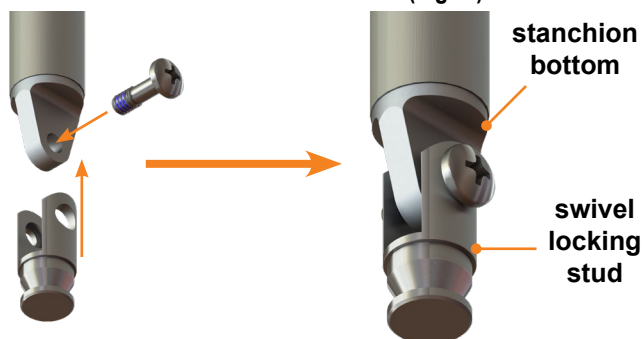

Fig.10
15. Use a screwdriver to install the swivel locking studs onto the bottoms of the stanchions (Fig.10).